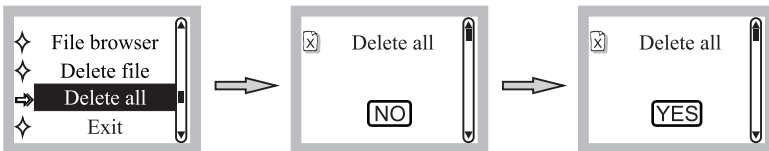

Fig. 26
- (3) Delete All: Press **▶||** to enter the “Delete all” screen. Press **◀◀** or **▶▶** to select “NO” or “YES”. Press **▶||** to confirm, Fig. 26.
- (4) Note: This function will delete all files in the flash drive, so careful action is highly recommended.